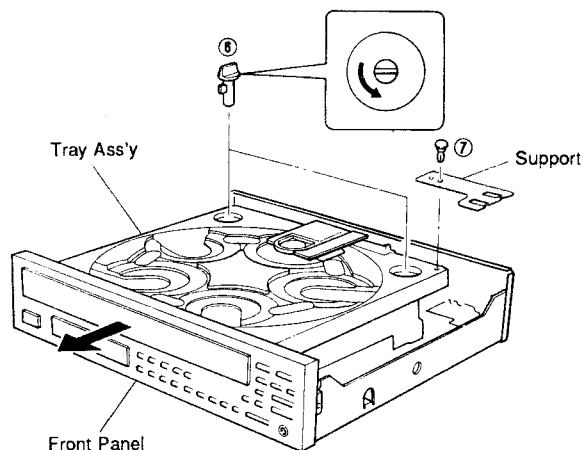

Fig. 6
- a. Turn the stopper/tray pin (⑥) counterclockwise by 90° degrees to pull it out as shown in Fig. 6.
- b. Remove a plastic rivet (⑦) and then remove the Support.
- c. Slowly remove the Tray Ass'y as shown in Fig. 6.